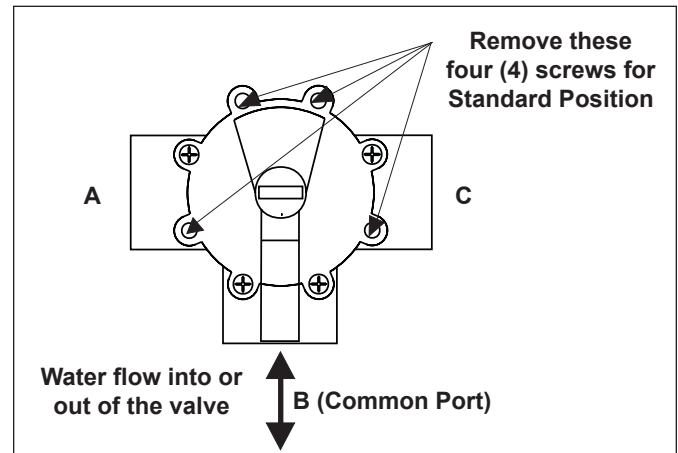

Figure 1. Standard Plumbing
**Standard Plumbing** position is with the middle port (B) as the incoming or common port to the valve (see Figure 1).